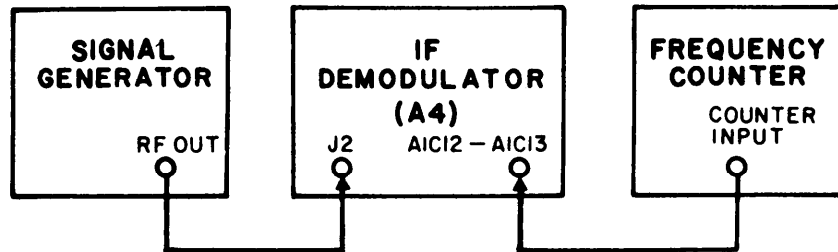

Figure 4-10. Test Setup, 21.4/10 MHz Converter Subassembly (A4A1) Alignment
- (1) Construct the circuit as shown in Figure 4-10.
- (2) Using the card extender, extend card A4A1 (21.4/10 MHz Converter).
- (3) Select the Band Switch on the receiver's front panel to HIGH.
- (4) Connect Frequency Counter to junction of capacitors C10-C11.
- (5) Connect the Signal Generator to J2 on A4.
- (6) Set the Signal Generator for an output frequency of 21.4 MHz. Set level to -10 dBm.
- (7) Adjust variable capacitor A1C13 for a counter reading of 31.4 MHz.
- (8) Connect counter to output of board and check that the frequency is 10 MHz  $\pm$  100 Hz.